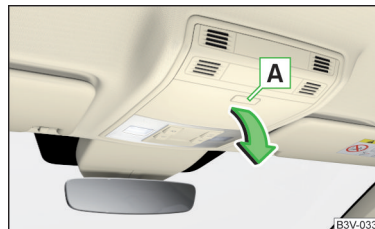

Fig. 116
- To **open**, press the -- button. The compartment folds in the direction of the arrow » Fig. 116.